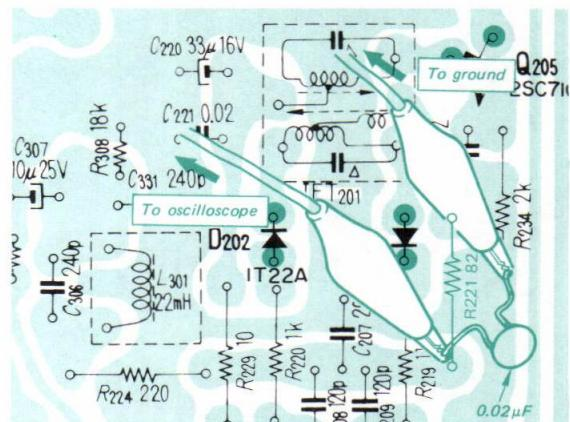

Fig. 3-3. Fm discriminator output connection
1. Connect the input cable of the oscilloscope with alligator clips to R221 and ground on the tuner and MPX board, and solder a  $0.02\mu F$  capacitor across these clips, as shown in Fig. 3-3.